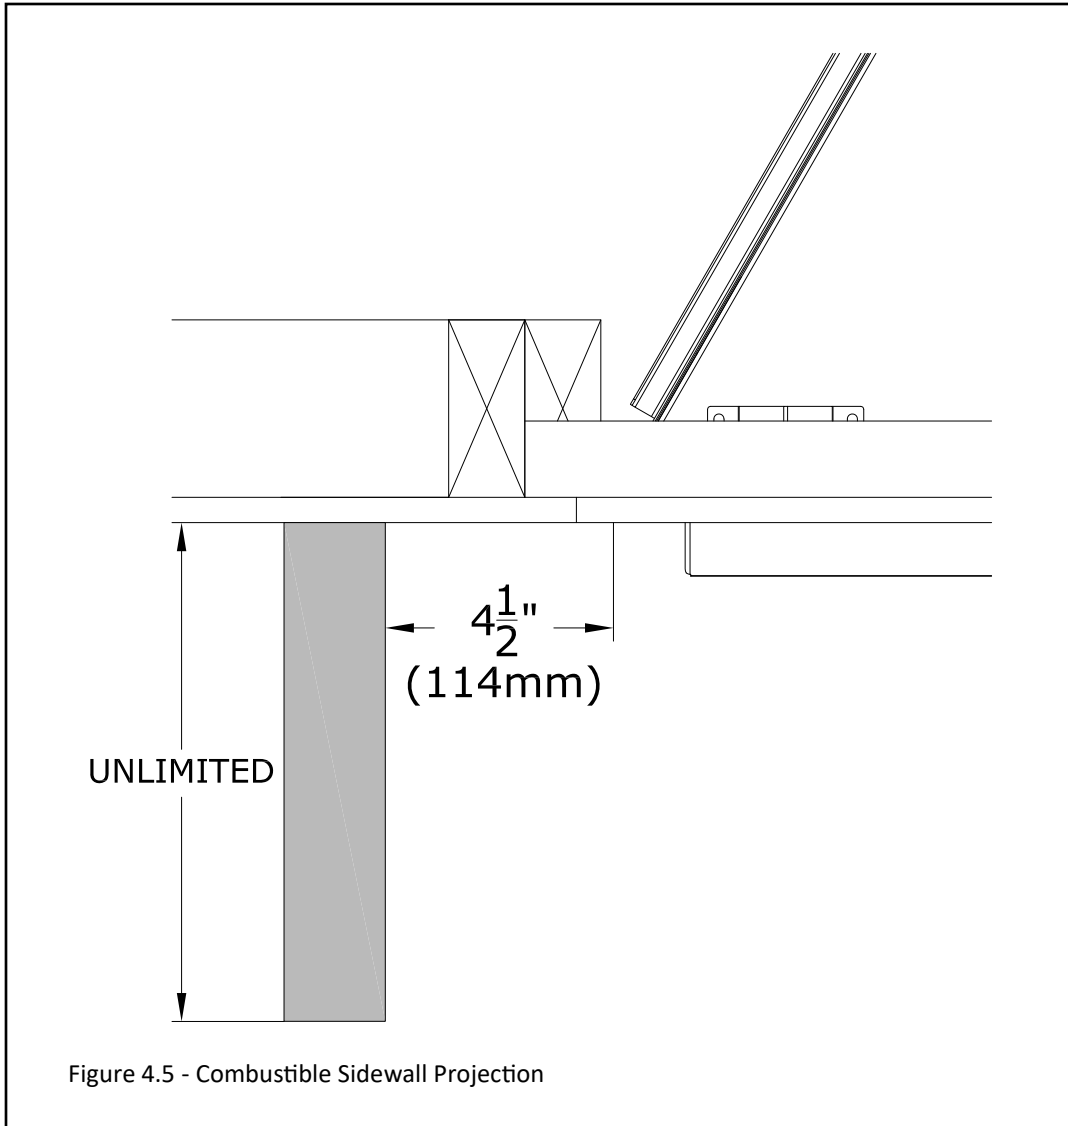

Figure 4.5 - Combustibile Sidewall Projection
- **Mantel Leg:** Follow "Side Combustible Clearance" below. See FIGURE 4.5.
- **Combustible Sidewall Clearance:** the adjacent sidewall projection is unlimited and starts at 4-1/2" (114mm) from the side of the fireplace. See FIGURE 4.5.